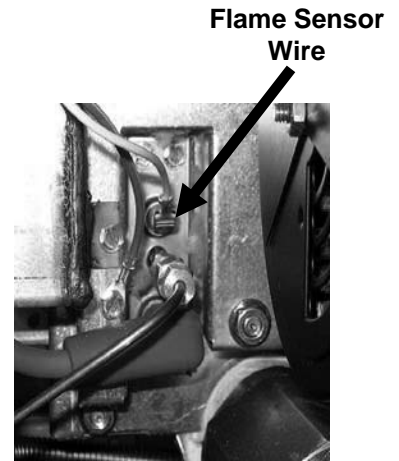

Figure 1
2. Disconnect the sensing wire from one of the burner ignitors (see Figure 1) and connect it to the positive lead of the meter. Connect the negative lead of the meter to the terminal from which the sensing wire was removed.